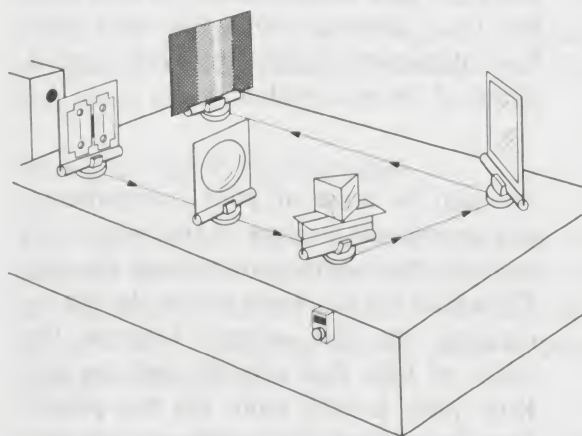

Figure 32.
1. Replace the grating with a prism, as shown in Figures 32 and 33.